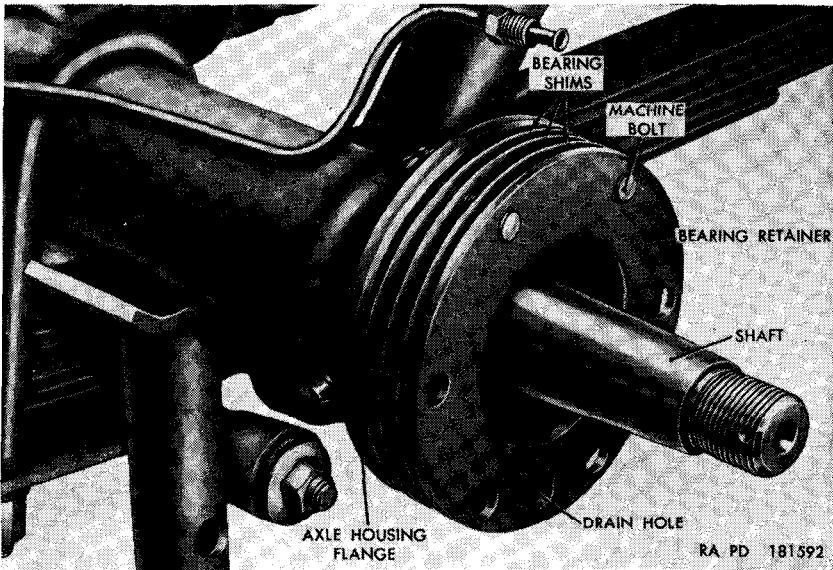

Figure 96. Rear axle shaft, bearing shims, and bearing retainer.
- (8) Remove the bearing retainer and bearing shims from the axle housing flange (fig. 96).
- (2) Insert the axle shaft into the axle housing and rotate shaft until the spline enters the differential side gear.
- (3) Position the bearing cone on the axle shaft with the small end of the bearing taper facing out. Position the bearing cup over the cone and tap the cup and cone on the axle shaft until the cone seats.
- (4) Position the bearing shims and bearing retainer over the axle shaft, aligning the drain holes in the retainer and shims with the drain hole in the axle housing flange (fig. 96). Insert two of the six $\frac{3}{8}$ x $1\frac{1}{4}$ bolts through the axle housing flange from the inner side and through the shims and retainer to maintain the alignment.
- (6) Pull the bearing retainer (fig. 96) off the bolts and remove or install shims to adjust the axle bearing to provide 0.003- to 0.007-inch end play of the axle shaft.
- (7) Install the bearing retainer (fig. 96) over the shims making sure the drain hole is at the bottom.